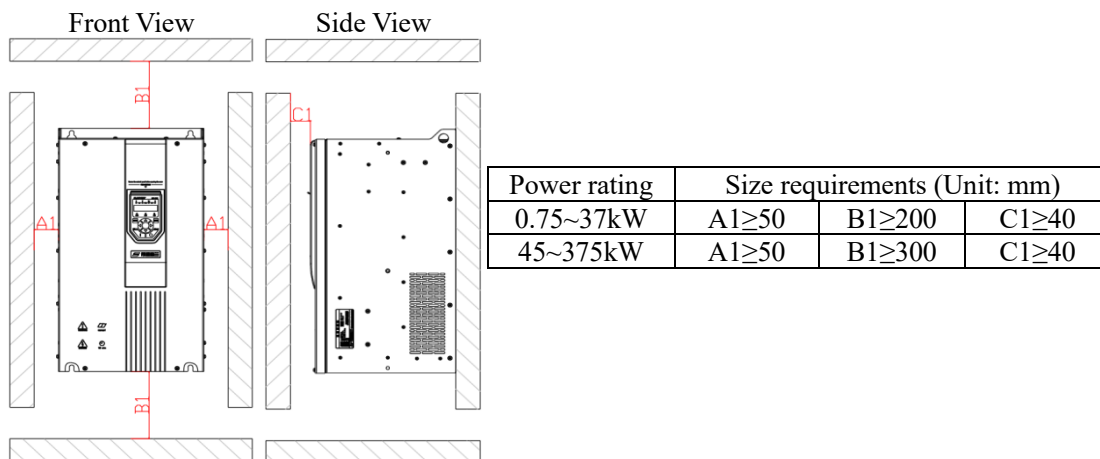

Fig. 3-2 Installation Spacing for a Single Set (Hope530G0.75T4~Hope530G375T4)
- Fig. 3-2 shows the installation space requirements. It is required to ensure that the frequency converter has sufficient space for heat dissipation. When reserving space, it is required to consider the heat dissipation conditions of other components in the cabinet;